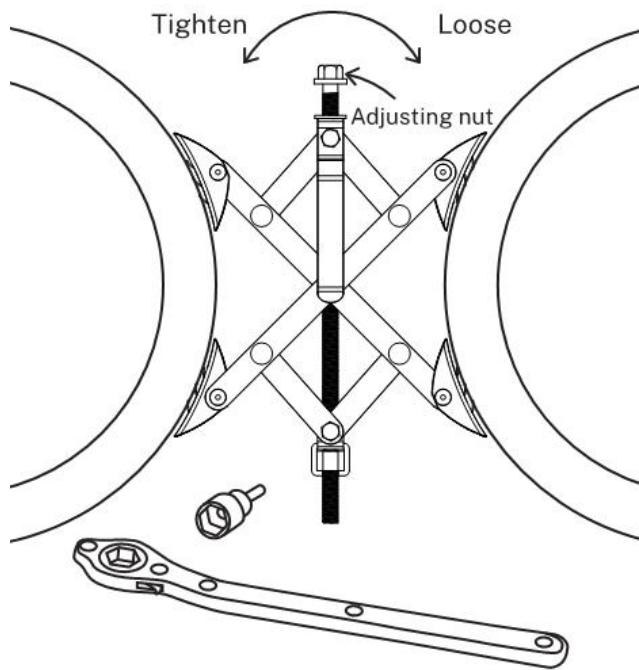

Figure 1
- B. As Figure 1 shows, this Wheel Stabilizer is to be positioned between the tandem wheels at the wheel center line. It functions by pressing a fixed distance outward (side to side) against the two wheels, locking one wheel to the other. this Wheel Stabilizer is adjustable for tandem wheel spacing from approximately 38-254mm.